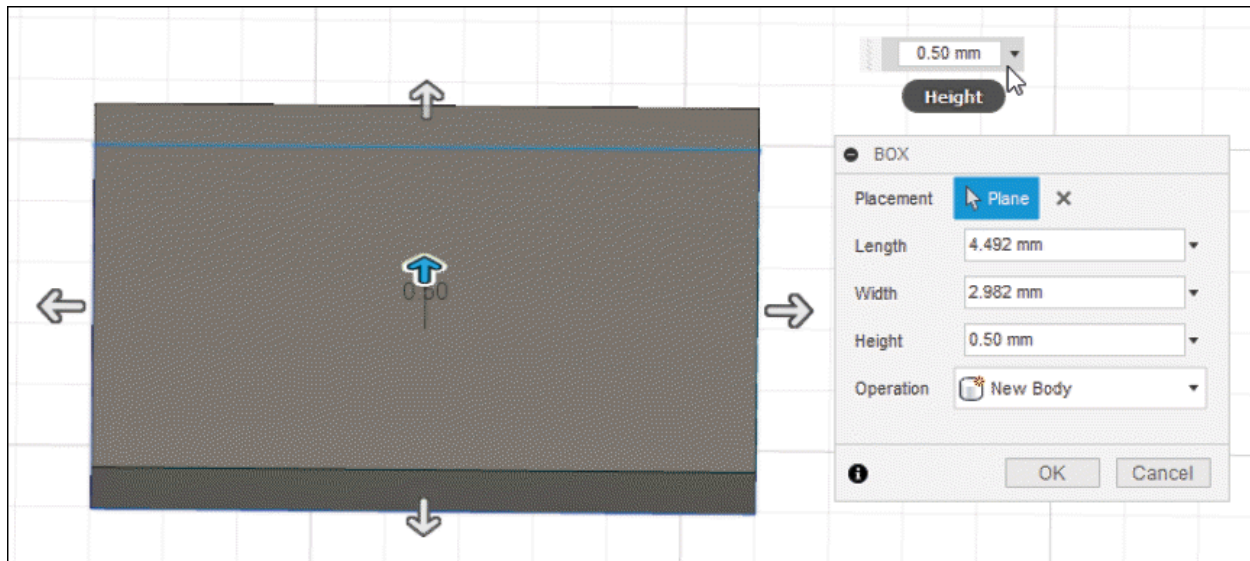

Figure-61. Preview of box with BOX dialog box
- You can toggle between these two edit boxes by pressing **TAB** key. The **Box** dialog box will be displayed along with the preview of box; refer to Figure-61.